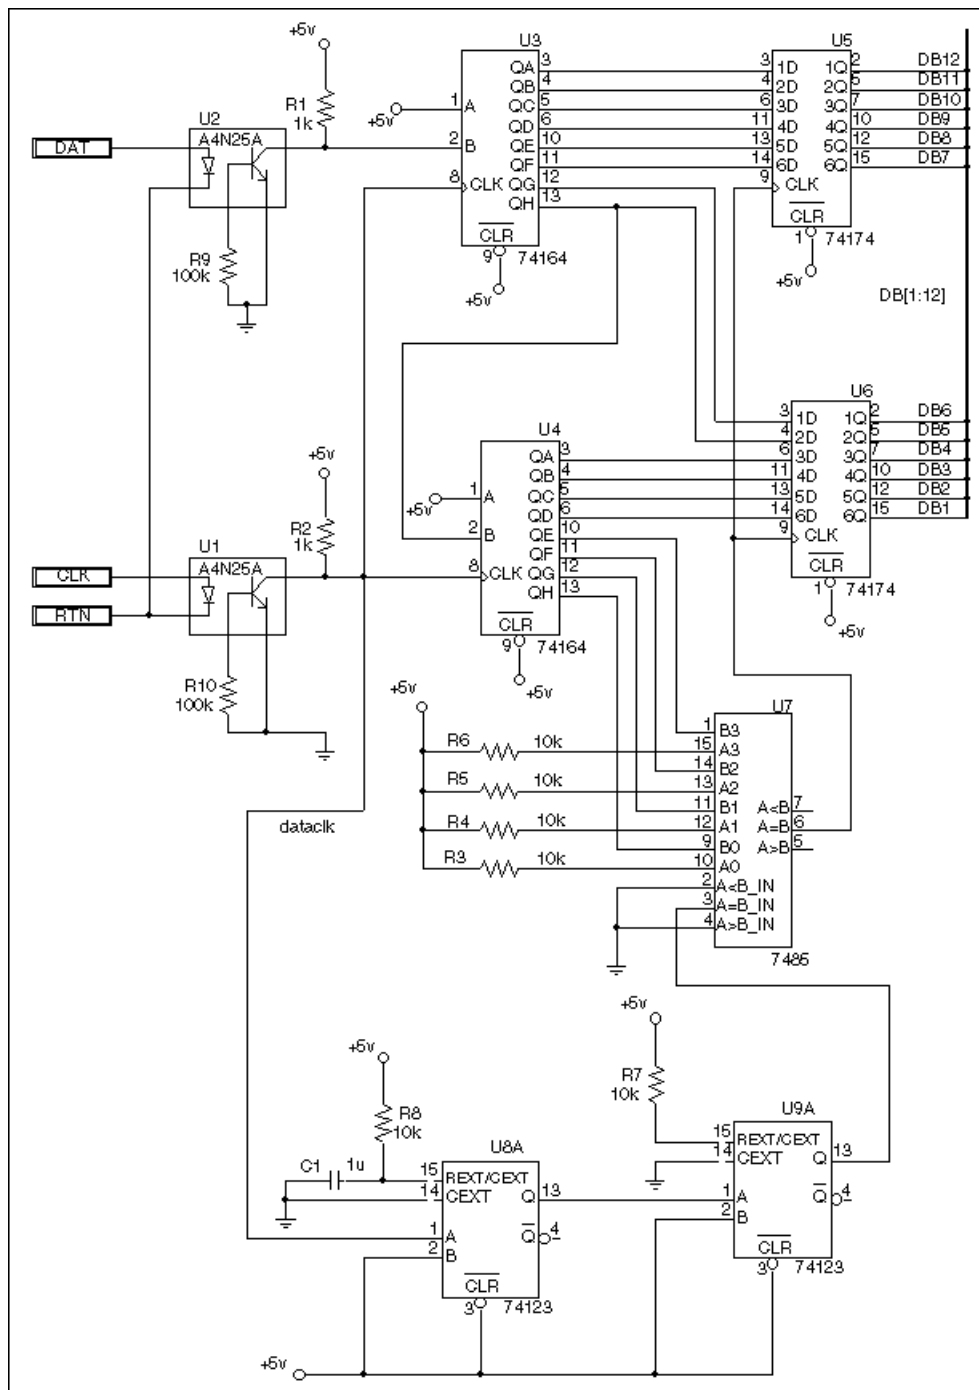

Figure 2 Opto-isolated, Addressable Serial-to-parallel Converter Circuit
Follow this example to create the circuit shown in Figure 2.
- 3 Place the part on the schematic in the approximate location shown in Figure 2.
- 3 Following the illustration in Figure 2, click where you want each vertex of the wire. Each click ends a wire segment and starts a new one.